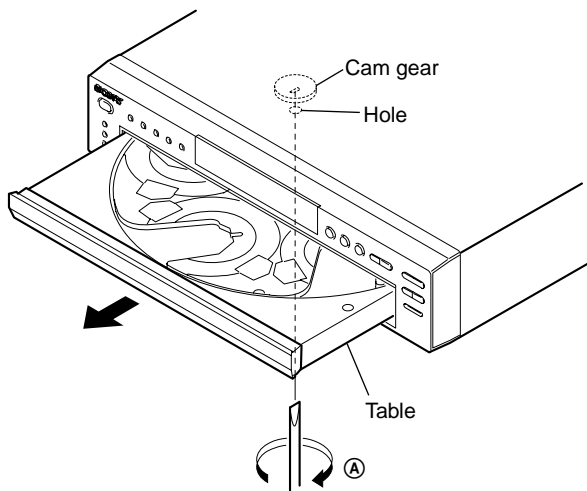

Fig. 2
- 1) Insert a flat-head (-) screwdriver into a hole at the bottom, and rotate the cam gear in the direction of the arrow ①. (See Fig.2)